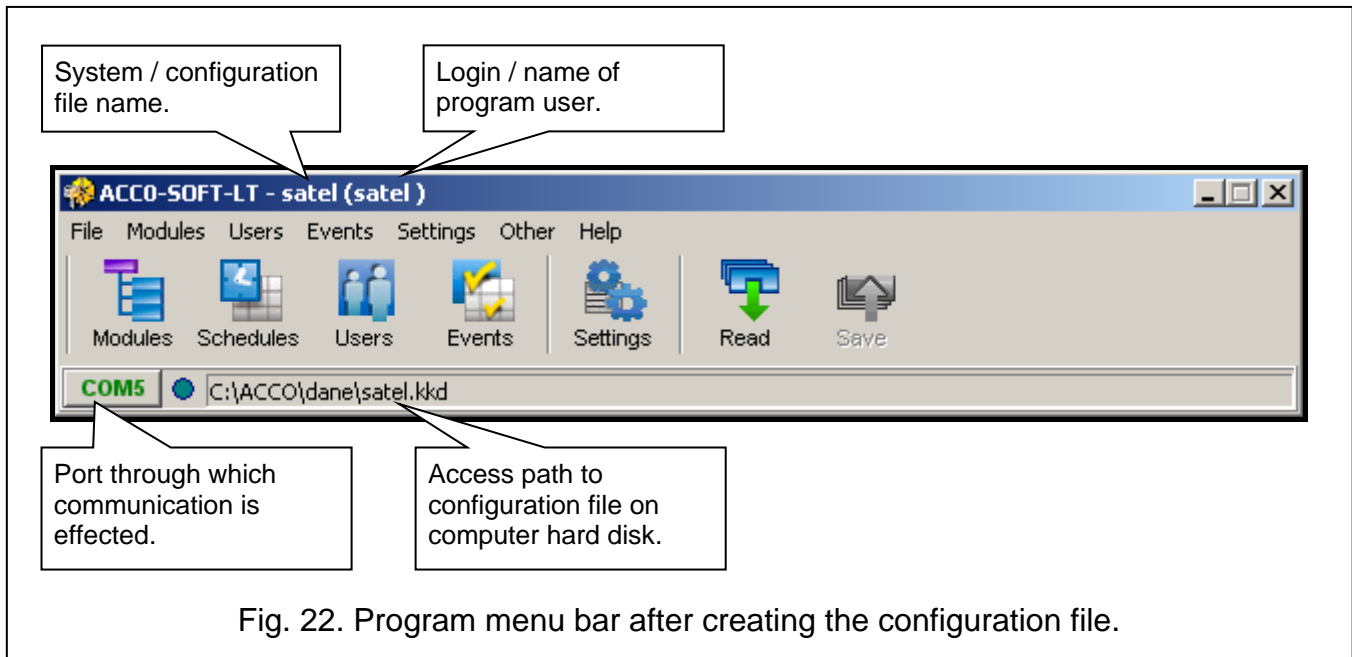

Fig. 22. Program menu bar after creating the configuration file.
5. After creating the configuration file (or opening the already existing file) the appearance of the program menu bar will change (see Fig. 22). The entire menu will be available, including the other buttons.
9. Having configured the module(s), save the new settings. The SAVE button in the modules window enables saving the data to the selected module. The SAVE button available on the program menu bar (see Fig. 22) makes it possible to save the data to all system modules whose settings have been changed.